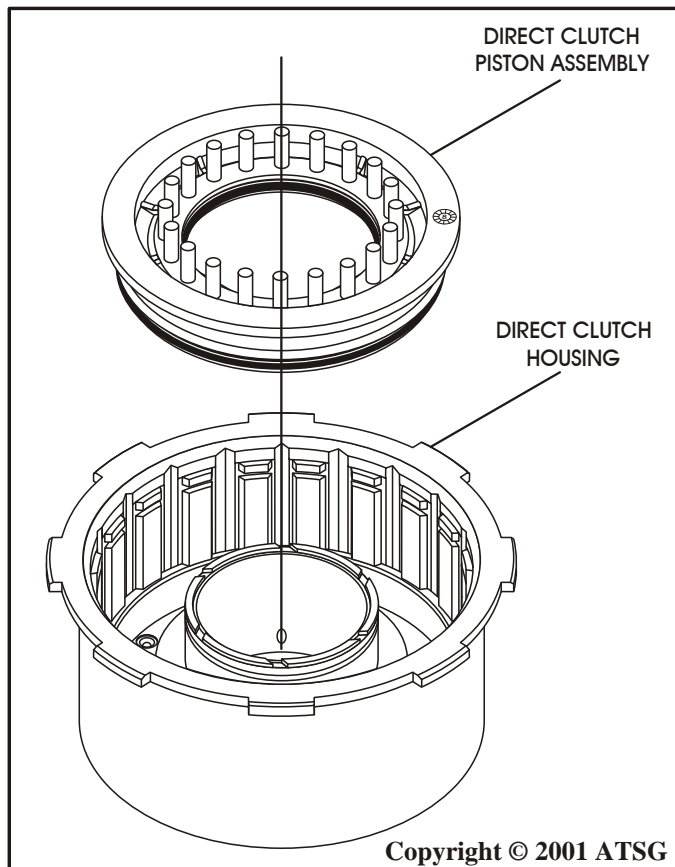

Figure 77
9. Install the completed direct clutch piston into the direct clutch housing with twisting motion, as shown in Figure 77.